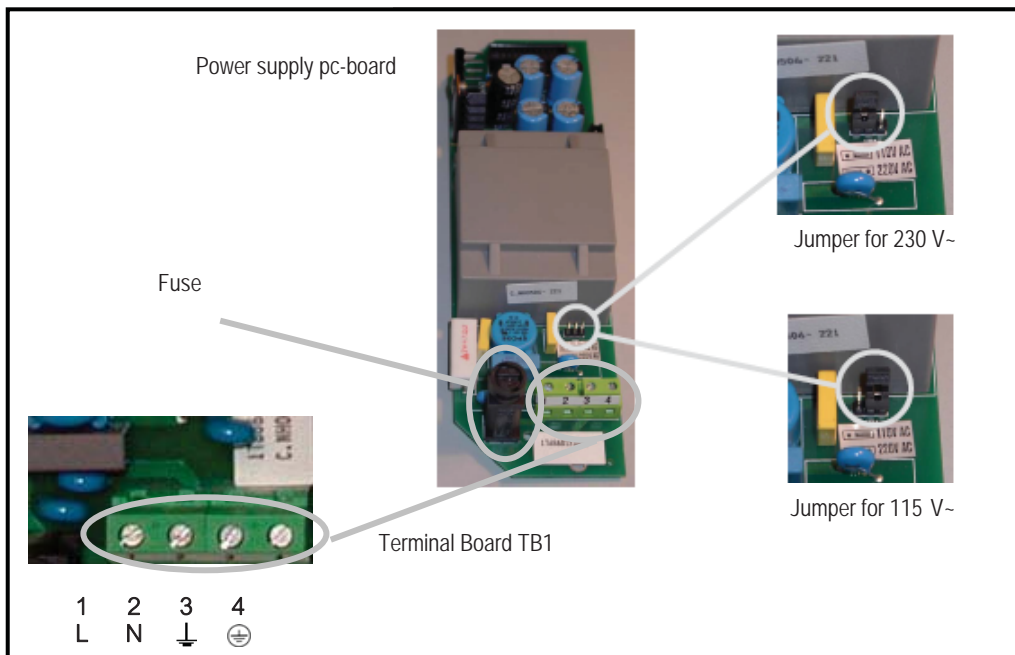

Figure 7 - Power supply selection
The power supply is connected to the terminal board TB1 (See Fig. 7).
The selection between the 115 V~ (Vac) or 230 V~ (Vac) power settings can be changed by moving a jumper (in position JP1) on the power supply pc board. Jumpers are represented in Fig. 7. The power supply is shipped with the voltage selector jumper in the 230 V~ (Vac) position. Should any modification be needed, proceed as per the following steps:
3. Locate the JP1 jumper on the power board (Fig. 7).
6. Connect power cable to Terminal board TB1 (Fig. 7). Reference Sections 3.4.1.1 and 3.4.1.2.
- The shields have to be connected to ground shield terminal strip (\perp) on the MicroChem2 power supply board (see Fig. 7).
Refer to each sensor Instruction Bulletin for the color/number codification of the sensors wires. The Pt100 shield and the sensor shield, if present, has to be connected to ground shield terminal \perp , (see Fig. 7), inside MicroChem[®]2. Please notice that, for pH, ORP and O2 sensors it is recommended to fix the cable near the sensor so that it doesn't move at the outlet of the cable gland. The wear of the cable at that point is thus prevented.
Use two cores shielded cables for 4-20 mA output signals, section of each conductor 18 AWG (0.5 - 1.0 mm²); connect shields to the shield ground terminal \perp , (see Fig. 7) inside MicroChem[®]2.